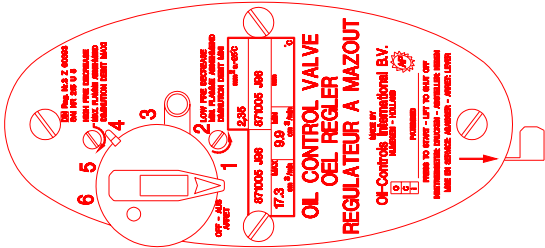

Figure 14B: CONSTANT LEVEL FLOW CONTROL VALVE (CARBURATOR)
- Make sure that the flow regulating handle is in the « 0 » position (figure 14b).